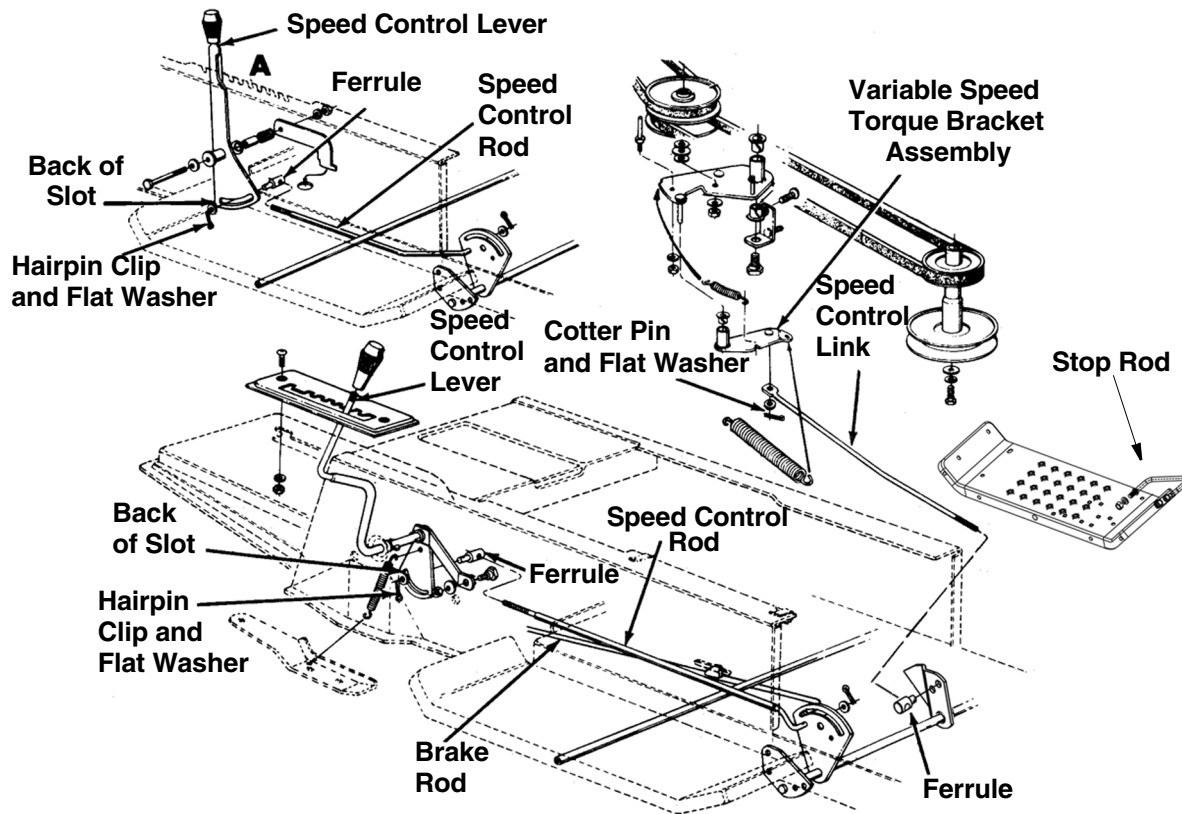

Figure 19
SPEED CONTROL ADJUSTMENT (See Figure 19)
1. Adjust the speed control lever by pushing the clutch-brake pedal forward until it hits the stop on the running board. See Figure 19. Have another person hold the pedal in this position as you make the following adjustment. Place the speed control lever in parking brake position. Remove the hairpin clip and flat washer, and adjust the ferrule on the rod so it is against the back end of the slot. See Figure 19. Then lengthen rod one more turn. Reassemble and secure with the flat washer and hairpin clip.